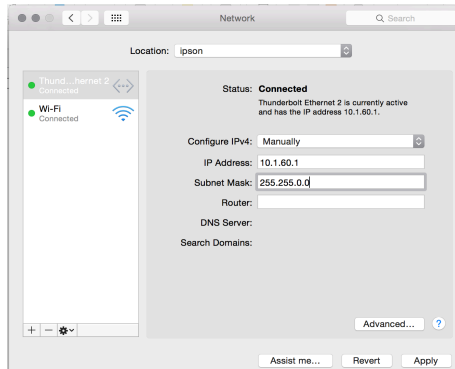

Figure 2 Network-settings for Macintosh OSX
Step 1. Connect the power with the appropriate power-supply (+15V, -15V, +5V, GND). Depending on the platform you are working with (Mac or PC), you have to go to network-settings and set the ip-number of your computer to (for example) 10.1.60.1 and change the mode (configure IPv4) to 'Manually' (see figure 2). If you keep your settings set to 'automatic', your computer will ask the CompLex for an ip-address and this will not work - the CompLex cannot act like a DHCP-server - and it will not provide your computer with a valid ip-address. The network mask can be set to 255.255.0.0